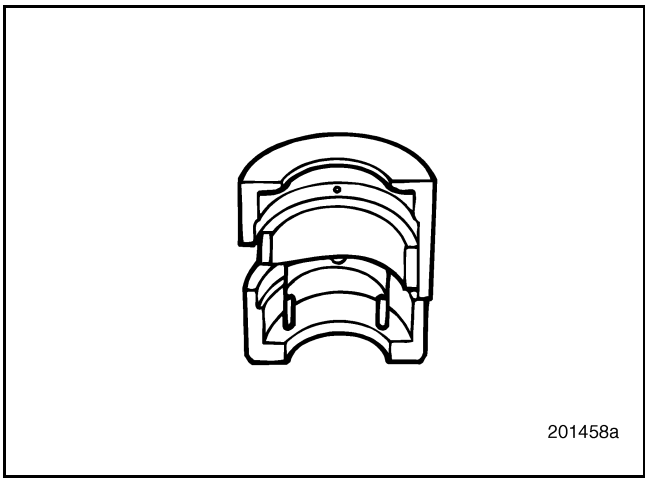

Figure 178 — Camshaft Installation Guide
4. Install the camshaft removal/installation tool J 41682 (Figure 178) in position on the rear segment of the camshaft, securing it to the shaft with the clip.